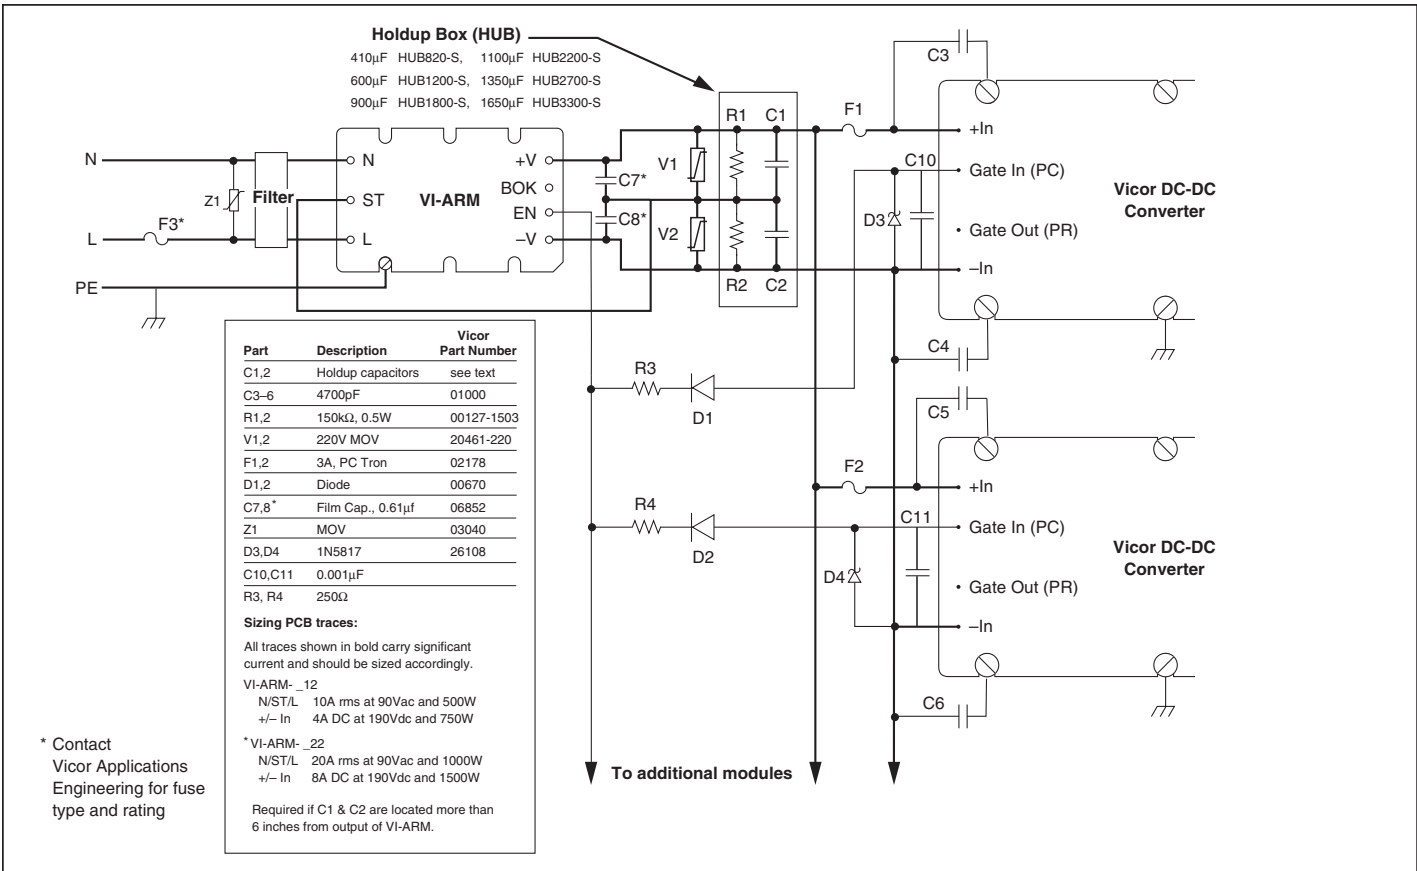

Figure 8—Converter connections
Strap (ST) Pin. In addition to input and output power pin connections, it is necessary to connect the Strap pin to the junction of the series holdup capacitors (C1, C2, Fig. 8) for proper (autoranging) operation. Varistors across the capacitors provide input transient protection. The bleeder resistors (R1, R2, Fig. 8) discharge the holdup capacitors when power is switched off.
It should be noted that the series combination ($C1, C2$, Fig. 8) requires each capacitor to be twice the calculated value, but the required voltage rating is reduced to 200V.